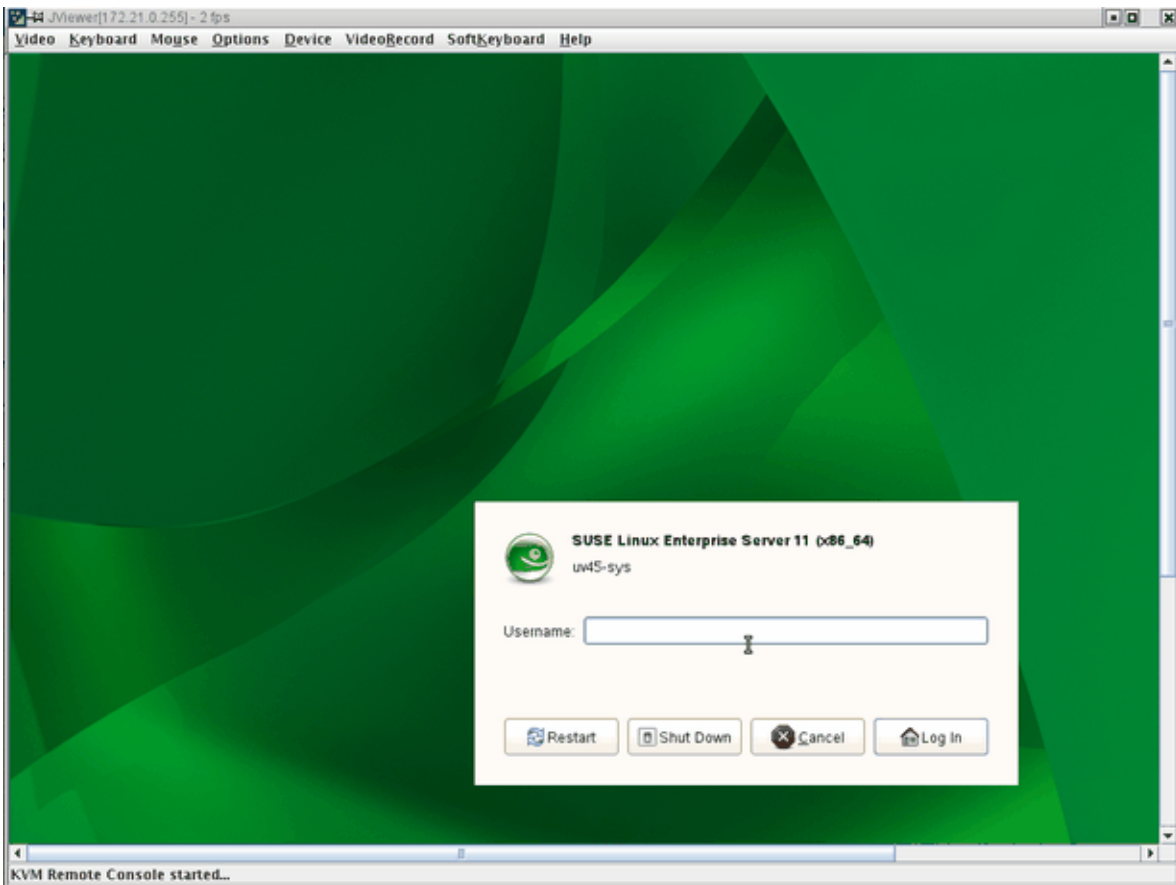

Figure 3-11 SUSE Linux Enterprise Server 11 (x86_64) Login Screen
14. The **SUSE Linux Enterprise Server 11 (x86_64)** login screen appears, as shown in Figure 3-11 on page 48. Log in as root user